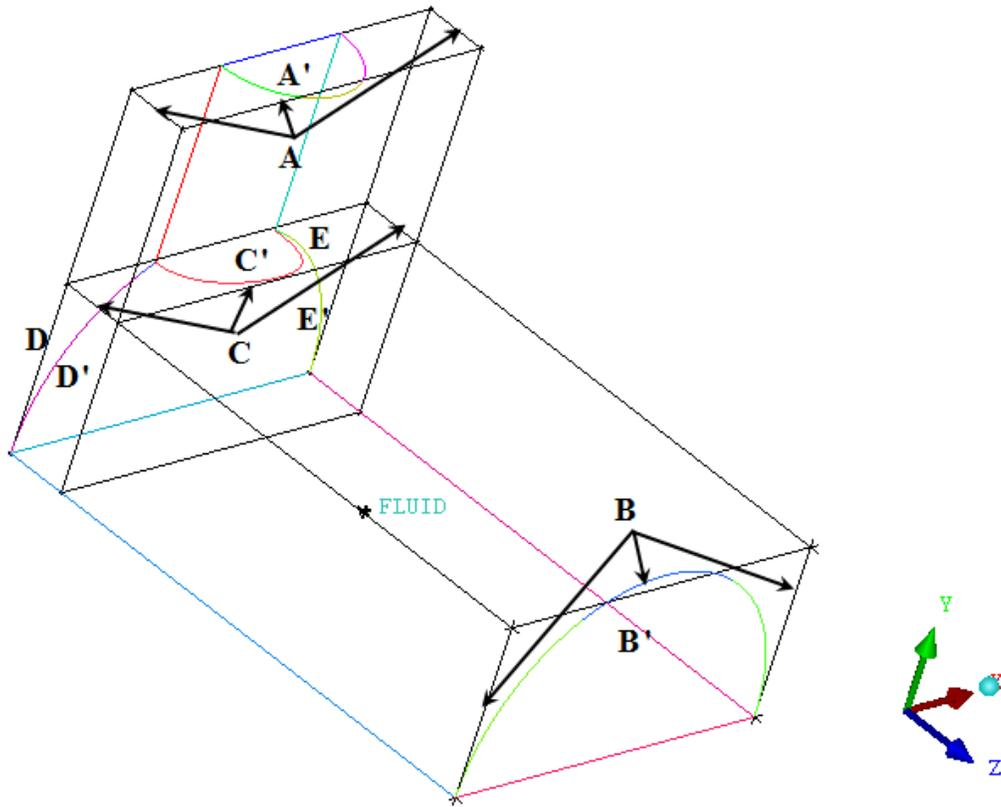

Figure 7: Associating Edges to Curves
2. Associate the three edges at the top (A in Figure 7) with the three curves forming the small semi-circle (A' in Figure 7).
- ii. Select the edges denoted by A in Figure 7.
- ii. Select the curves denoted by A' in Figure 7.
- Associate B in Figure 7 with the three curves forming the large semi-circle (B').
- Associate C in Figure 7 with the semi-circle curve forming the intersection (C').